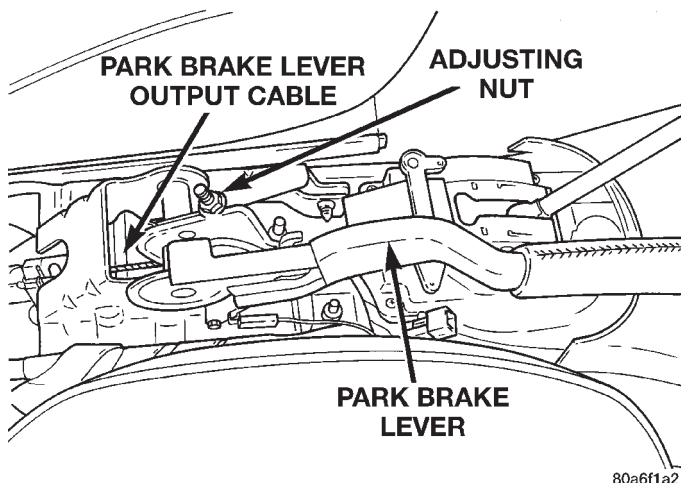

Fig. 126 Park Brake Lever Output Cable Adjustment Nut
(5) Raise the park brake hand lever to approximately the half way point of its total travel. This will allow for the required clearance to remove the center console.
(6) Remove the center console/arm rest from the vehicle.
(7) Lower park brake lever handle.
(8) Loosen adjusting nut (Fig. 126) on park brake lever output cable. This will take tension off output cable, allowing it to be easily removed from tension equalizer.